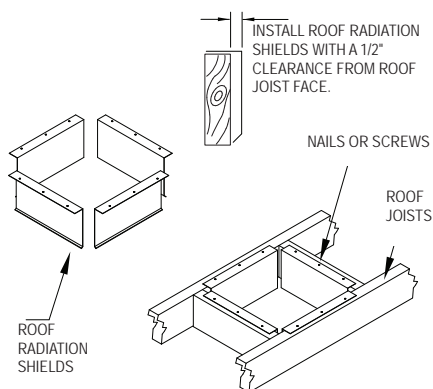

Figure 8
Note: Combustible materials will still need to be a minimum of 2" away from the chimney. Roof Radiation Shields must be installed with their face 1/2" off of the roof framing joists (**Fig 8**). Depending upon the pitch of your roof, trim the Roof Radiation Shields with tin snips so they provide complete coverage of the roof framing exposed to the chimney. Secure the Roof Radiation Shields to the top of the framing members using at least (3) nails or screws for each shield (**Fig 8**).